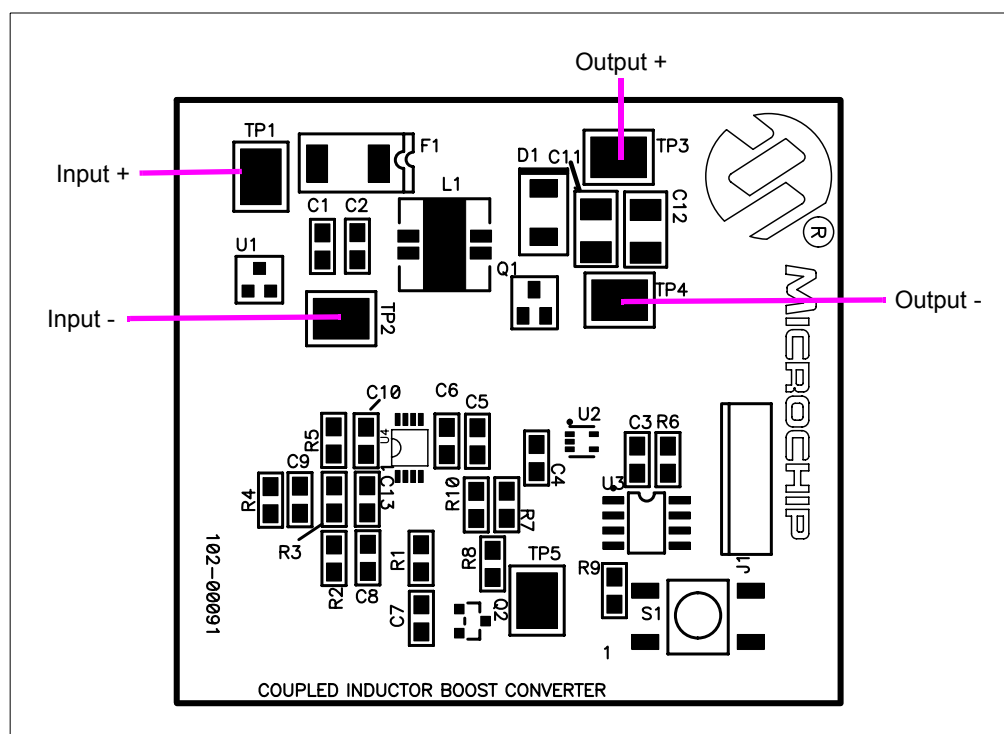

FIGURE 2-1: Setup Configuration Diagram.
1. Connect the positive side of the input source (+) to TP1. Connect the negative or return side (-) of input source to TP2. Refer to Figure 2-1. The input voltage source should be limited from 3.0V to 5.5V range. As the input voltage is applied and the system powers up, the firmware program of the PIC12F683 device will initialize and help the converter remain in low-power sleep mode ($<0.1 \mu\text{A}$) until the S1 push button is pressed for > 2 seconds by the user. If the S1 push button is pressed for less than 2 seconds, the converter will not power up.